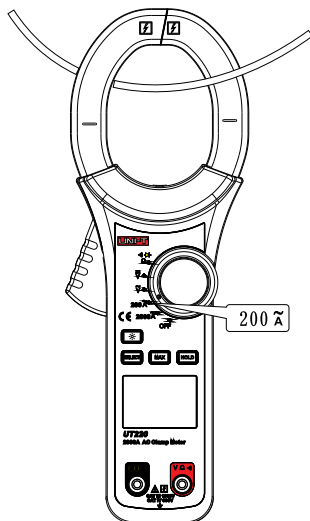

Figure 9
7. 200A AC current measurement (200 $\tilde{A}$) (See Figure 9)